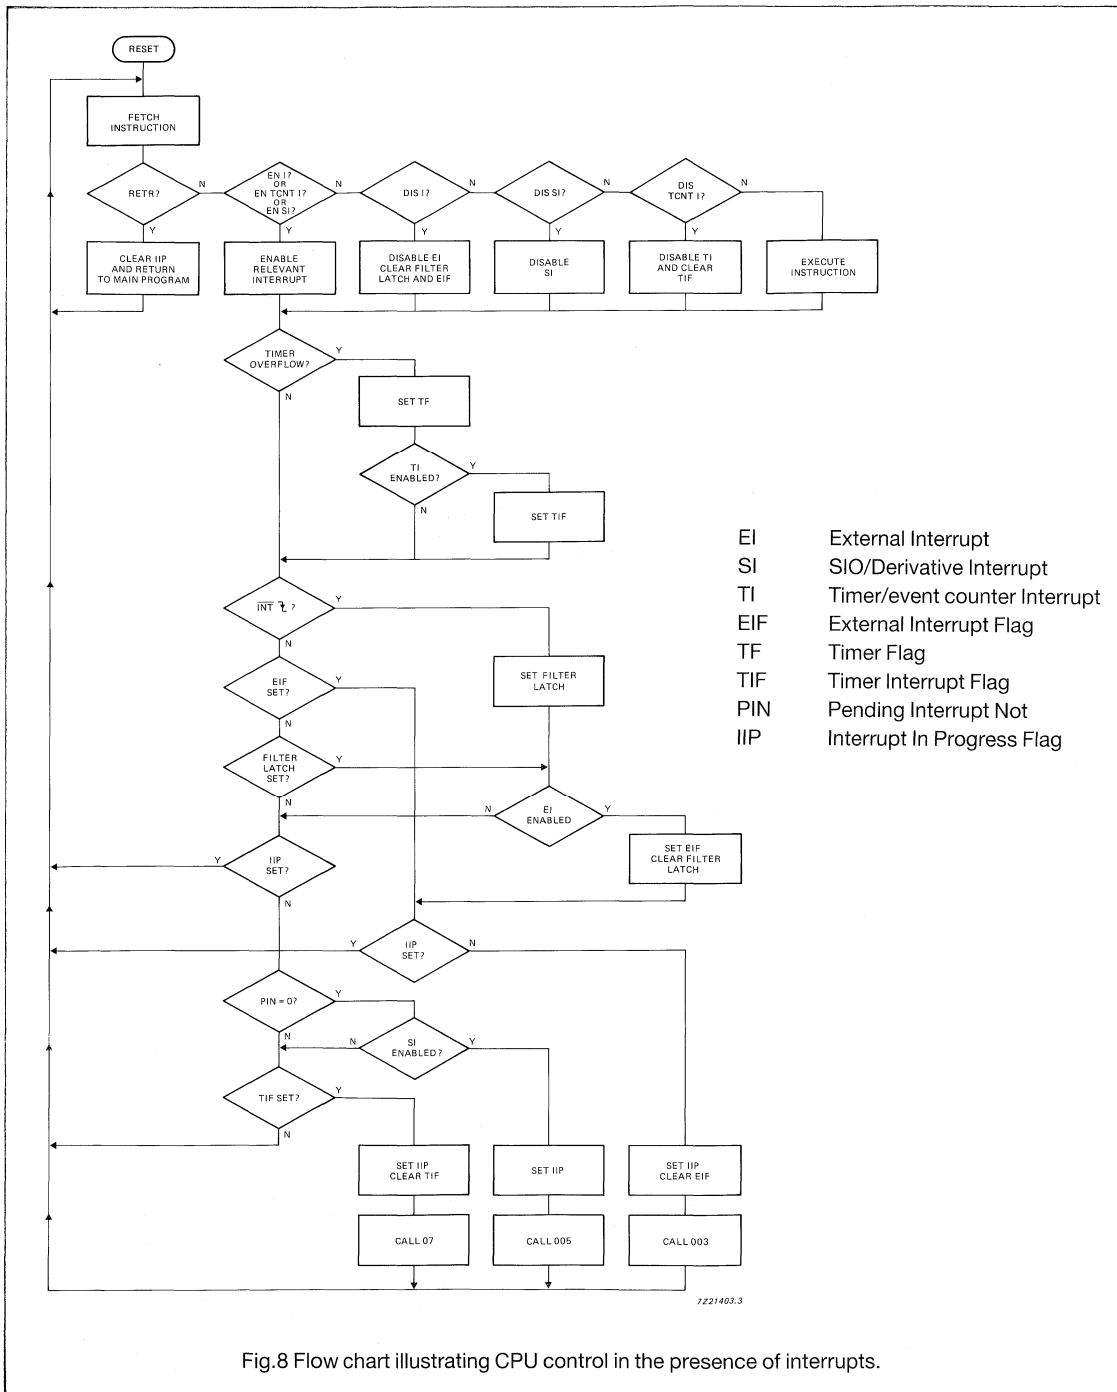

Fig.8 Flow chart illustrating CPU control in the presence of interrupts.
- Subroutines and nested subroutines called within an interrupt routine must all end with RET since RETR clears the IIP (interrupt in progress) flag (Fig.7 and Fig.8). Further pending interrupts would then interfere with the interrupt routine in progress.
A HIGH-to-LOW transition on the  $\overline{\text{INT}}/\text{T0}$  pin is latched in the digital filter latch if the LOW state exceeds 7 clock periods after a HIGH state of more than 4 clock periods. If the external interrupt is enabled, then the external interrupt flag (EIF) will also be asserted, constituting a valid external interrupt request. As soon as the IIP is clear, indicating that no interrupt routine is in progress, the external interrupt is invoked by a forced CALL to location 3. The EIF flag is simultaneously cleared (Fig.7 and Fig.8). The interrupt routine may acknowledge the interrupt via port lines.
When the timer/event counter interrupt is enabled, a timer/event counter overflow sets the Timer Interrupt Flag (TIF). As soon as the Interrupt in Progress (IIP) flag is clear (indicating that no interrupt routine is in progress), the timer/event counter interrupt routine is invoked by a forced CALL to program memory location 7, and the TIF flag is simultaneously cleared (Fig.7 and Fig.8).